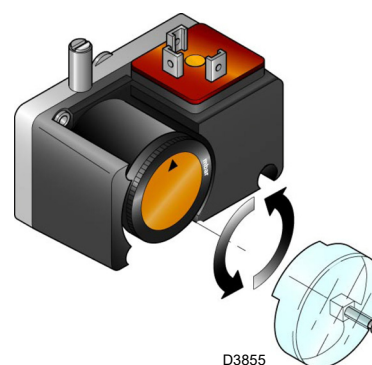

Fig. 36
- Adjust the pressure switch for the valve leak detection control device (PVP Kit)(Fig. 36 at page 34), if present, according to the instructions supplied with the Kit itself.
Adjust the pressure switch for the valve leak detection control device (PVP Kit)(Fig. 36), if present, according to the instructions supplied with the Kit itself.